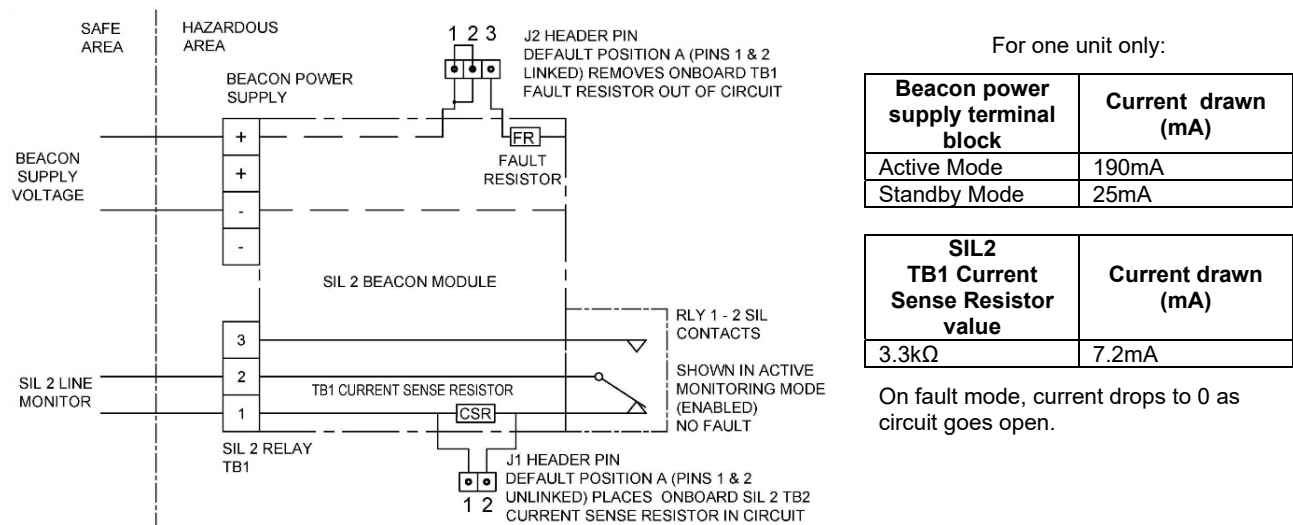

Figure 11: Schematic of SIL 2 system wiring for fault detection in standby and active mode – 4 wire installation.
**Option:** Should the fault event output of RLY1-2 be required to operate as a switch, header J1 can be set to link pins 1 & 2 (see Figure 11) thereby removing the 3.3k Ohm current sense resistor (CSR) from the circuit.